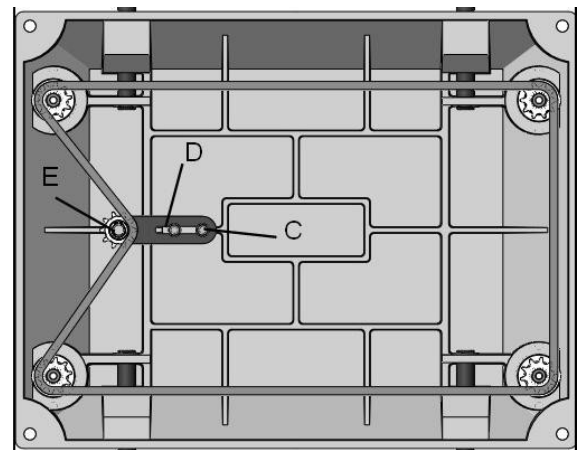

Fig. 17
If head casting is not parallel to table, tilt planer on its side. Remove bolt C and loosen bolt (D) (Fig. 17). This will enable you to move the idler sprocket assembly (E) this procedure will release the tension of the chain.